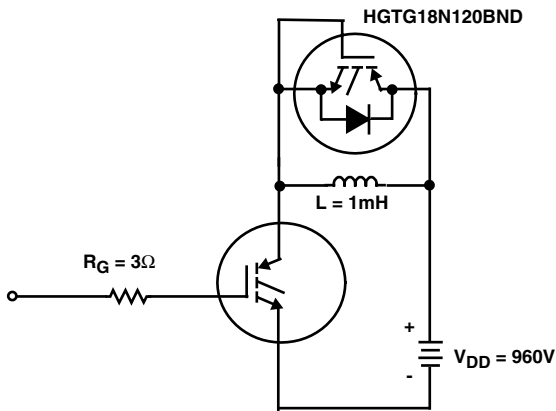

FIGURE 18. INDUCTIVE SWITCHING TEST CIRCUIT
| Current Turn-On Delay Time              | $t_{d(ON)I}$  | IGBT and Diode at $T_J = 25^{\circ}\text{C}$$I_{CE} = 18\text{A}$$V_{CE} = 960\text{V}$$V_{GE} = 15\text{V}$$R_G = 3\Omega$$L = 1\text{mH}$Test Circuit (Figure 18) | -    | 23   | 28        | ns            |
| Current Turn-On Delay Time          | $t_{d(ON)I}$    | IGBT and Diode at $T_J = 150^\circ\text{C}$$I_{CE} = 18\text{A}$$V_{CE} = 960\text{V}$$V_{GE} = 15\text{V}$$R_G = 3\Omega$$L = 1\text{mH}$Test Circuit (Figure 18) | -   | 21   | 26   | ns                 |
- Values for two Turn-On loss conditions are shown for the convenience of the circuit designer.  $E_{ON1}$  is the turn-on loss of the IGBT only.  $E_{ON2}$  is the turn-on loss when a typical diode is used in the test circuit and the diode is at the same  $T_J$  as the IGBT. The diode type is specified in Fig. 18.